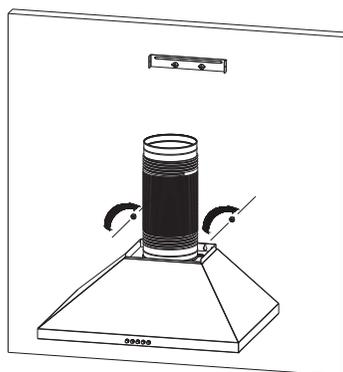

Fig.6
- Hang range hood on the suspension screws. See Fig.6.